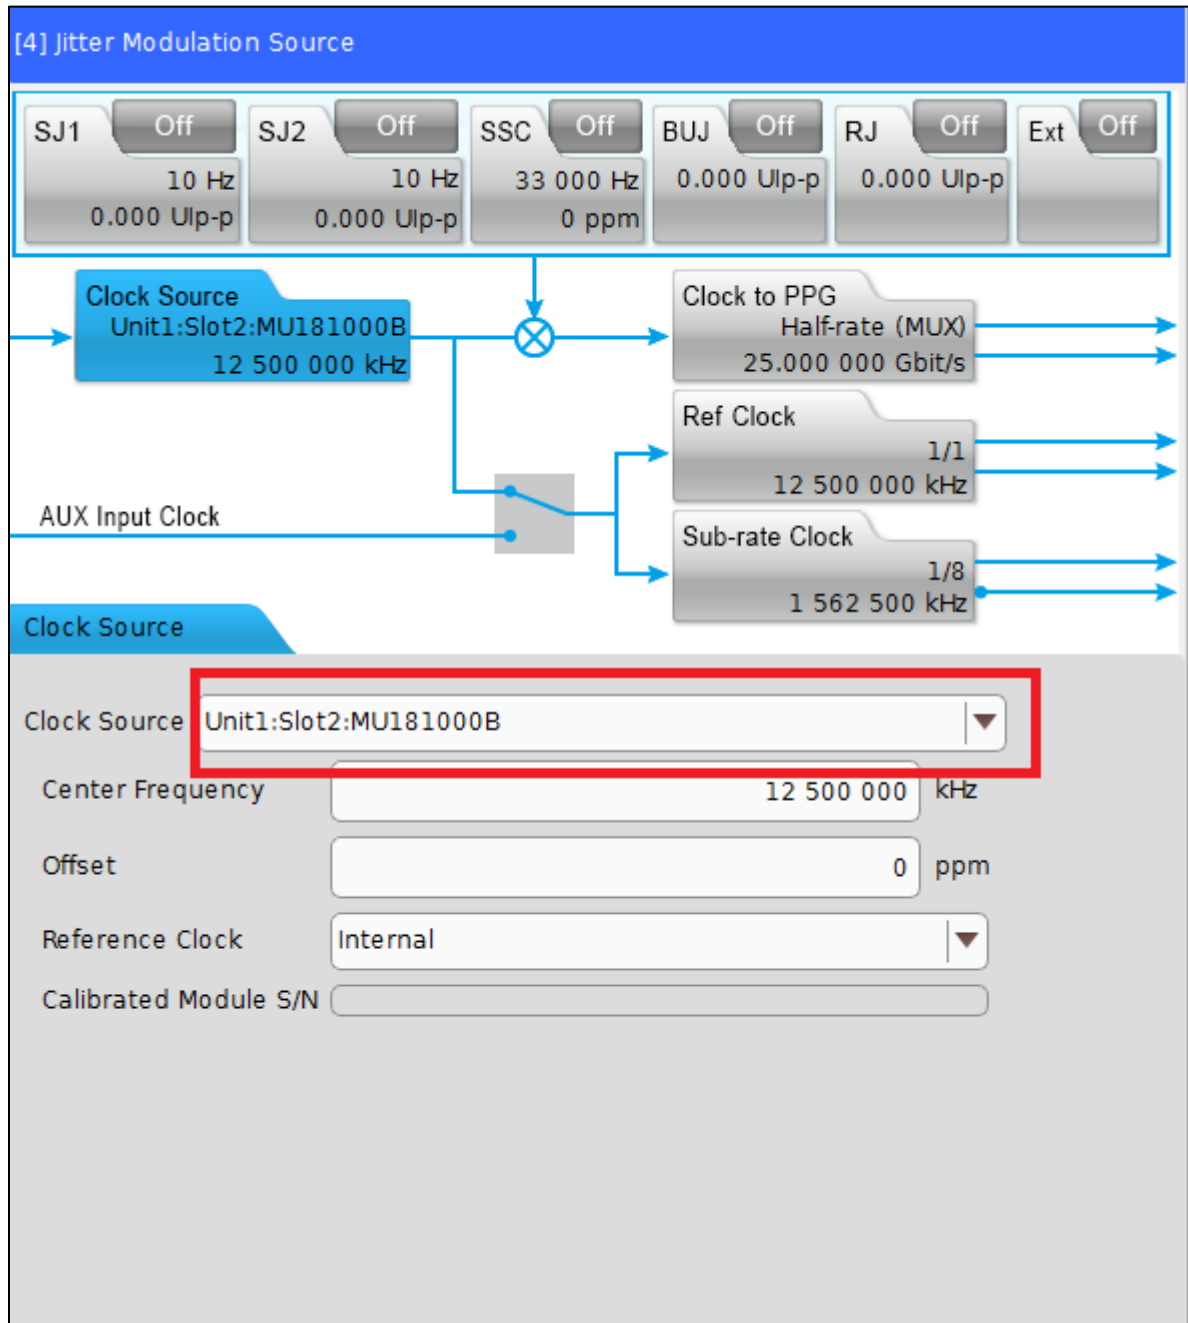

FIGURE 69. JITTER CLOCK SOURCE SETTING
- b) Go to Jitter tab and set Clock Source to “Unit1:Slot2:MU181000B”. See Figure 69.